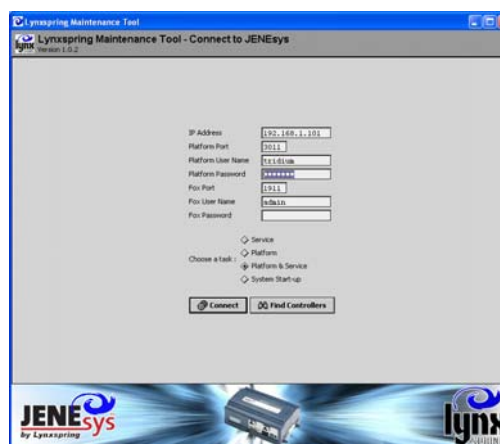

Figure 3
32. With a controller selected, a password screen will appear (Figure 3). Enter the following items where appropriate: